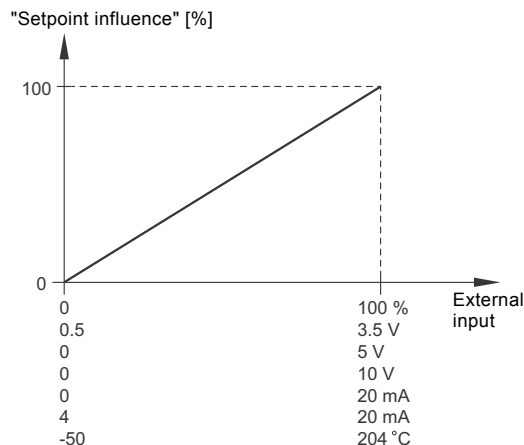

Fig. 76 "Linear function"
- "Linear function" The setpoint is influenced linearly from 0 to 100 %. See fig. 76.